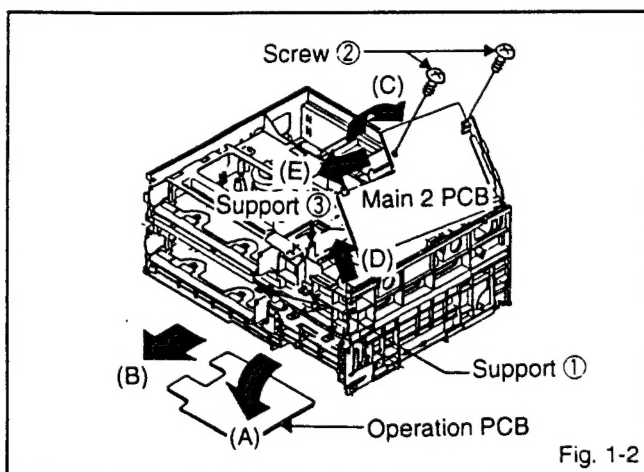

Fig. 1-2
### 2. OPERATION PCB (Refer to Fig. 1-2)
### 3. DECK 1/2 AND MAIN 2 PCB (Refer to Fig. 1-2 and 1-3)
1. Remove the 2 screws ②. (Refer to Fig. 1-2)
2. Open the MAIN 2 PCB in the direction of arrow (C). (Refer to Fig. 1-2)
4. Remove the 6 screws ①.
7. Remove the TRANSISTOR PCB. (Refer to item 2-9 of the MECHANICAL ADJUSTMENT.)
8. Remove (a) part of the MAIN 2 PCB in the direction of arrow (D).
9. Remove the MAIN 2 PCB in the direction of arrow (E). (Refer to Fig. 1-2)